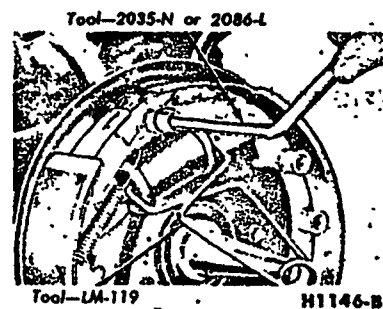

FIG. 7—Retracting Spring Removal
1. With the wheel and drum removed, install a clamp over the ends of the brake cylinder as shown in Fig. 7.
5. Remove the primary shoe to anchor spring with the tool shown in Fig. 7. With the same tool, remove the secondary shoe to anchor spring and unhook the cable eye from the anchor pin.
2. Place a clamp over the ends of the brake cylinder as shown in Fig. 7.